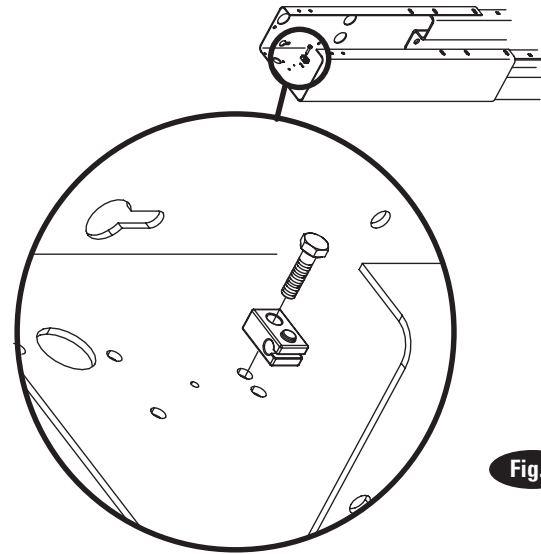

Fig. 3
2. Latch Cable Guides: Install the latch cable conduit guide brackets to column extensions with (1) 1/4"-20NC x 1" HHCS and 1/4"-20NC Flanged Locknuts, Fig. 3. HHCS should go through hole nearest the edge as shown, Fig. 3.
3. Column Extensions: While column is on the ground, install column extensions using (4) 3/8"-16NC x 1" lg. Carriage Bolt and Flanged Locknut, Fig. 3 & Fig. 1b. Use (2) 3/8"-16NC x 2-1/2" lg. Carriage Bolt and Flanged Locknut to attach the tie bar and the column extension together at the column's uppermost holes, Fig. 3. The tie bar is positioned on the outside of the column extension. Adjust the column extensions plumb.
IMPORTANT: All star washers are to be mounted on the right side column to ensure grounding of overhead limit switch. Star washers are not needed when mounting to left side column. Notice the column extension mounting, Fig. 3 and overhead limit switch mounting as well in Fig. 3 & Fig. 6.